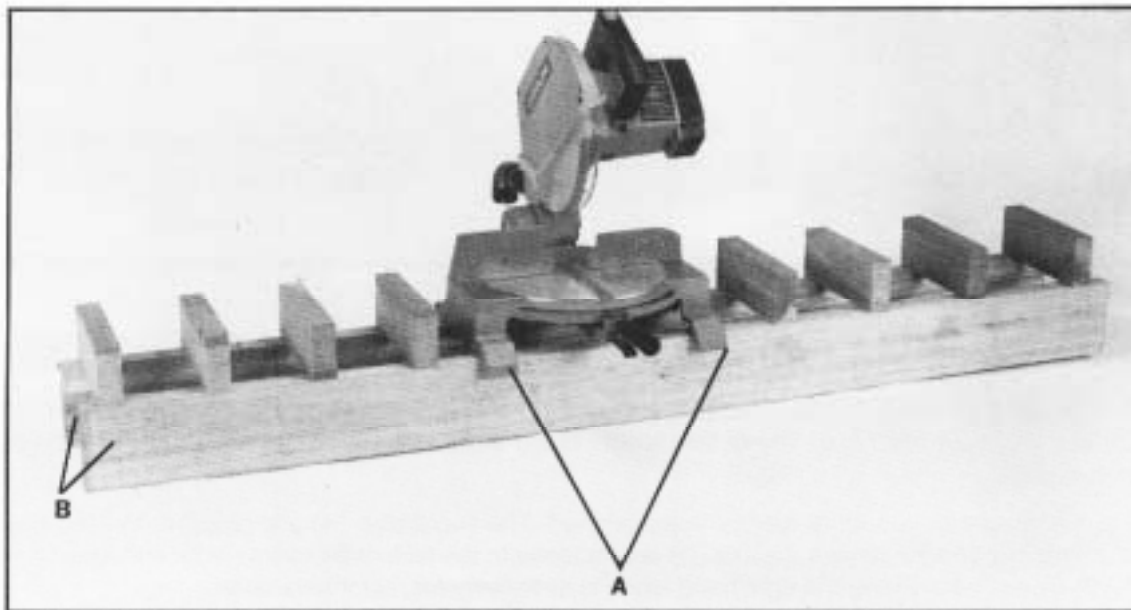
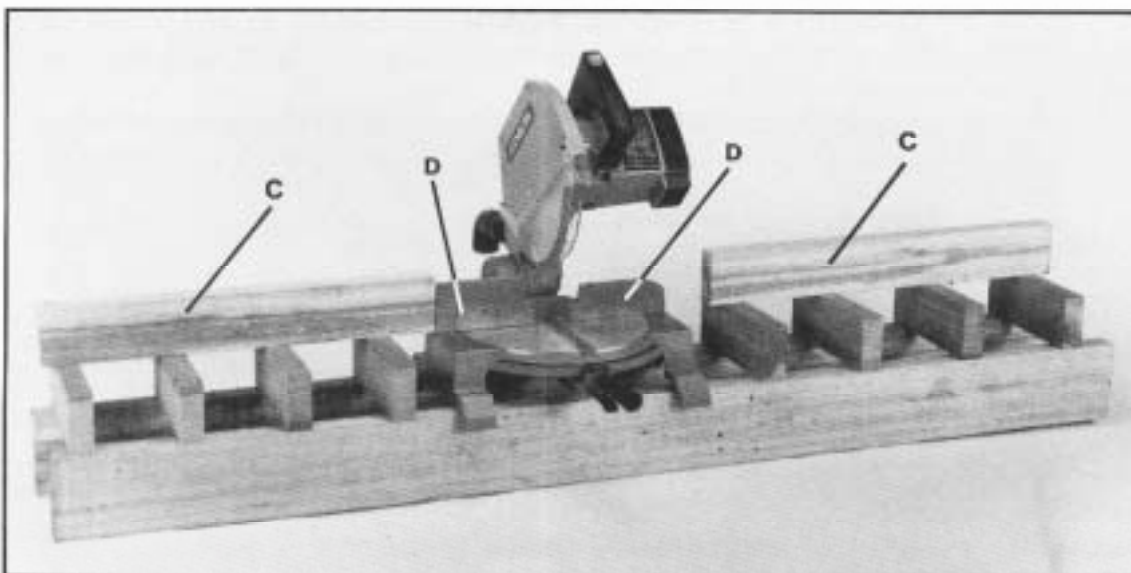

Fig. 64
Fig. 65
One of the unique features of your miter box is the ease with which you can construct work supports. Fig. 64, illustrates the miter box mounted to two standard 2 x 6's (B). 2 x 4's can also be used for this purpose. Fasten the mounting legs (A) to the 2 x 6's using four screws through the four holes in the mounting legs. The length of the 2 x 6's (B) can vary depending on your preference. The distance from the top of the 2 x 6's to the miter box table will be 3-1/2". This enables you to nail standard 2 x 4's to the mounting boards, as shown in Fig. 64. The top of the 2 x 4 pieces will then be in alignment with the table of the miter box. If desired, you can fasten fence extensions (C) Fig. 65, to the work supports making sure they are in alignment with the fences (D) of the miter box.